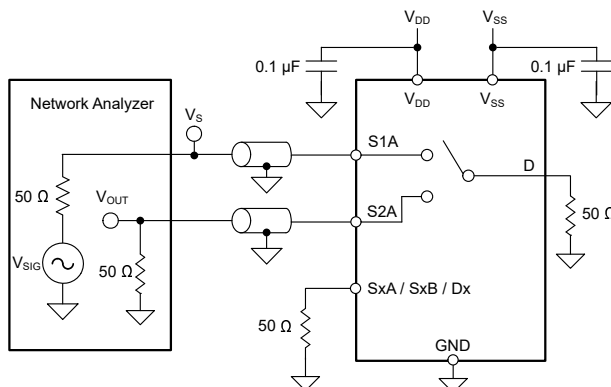

Figure 6-11. Crosstalk Measurement Setup
Crosstalk is defined as the ratio of the signal at the drain pin (D) of a different channel, when a signal is applied at the source pin (Sx) of an on-channel. Figure 6-11 shows the setup used to measure and the equation used to calculate crosstalk.